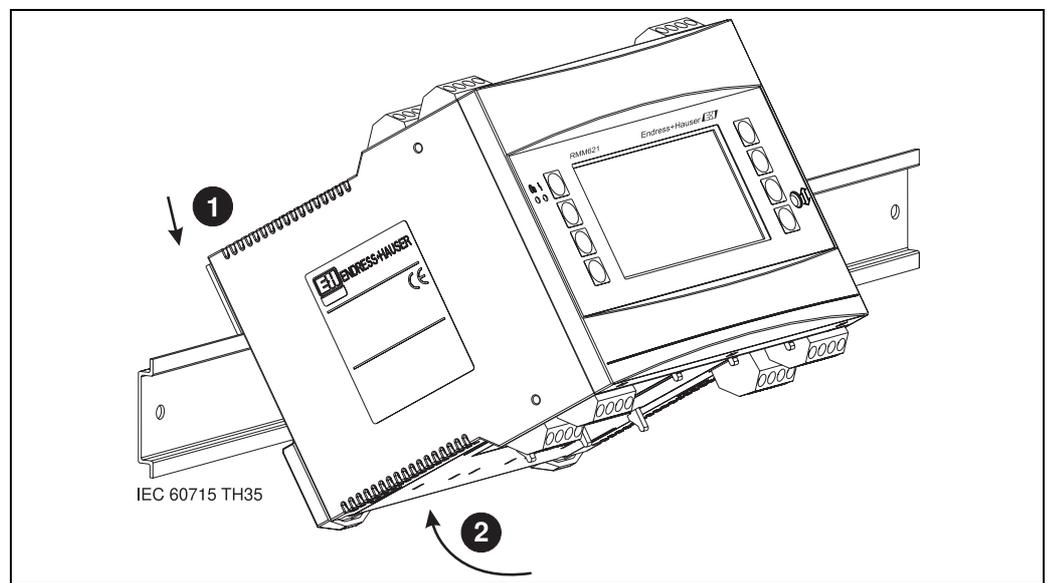

Fig. 2: Mounting device on top-hat rail
First remove the plug-in terminals from the device slots. Now snap the housing onto the top-hat rail by first hanging the device on the top-hat rail and then pressing it down gently until it engages (→ Fig. 2, items 1 and 2).